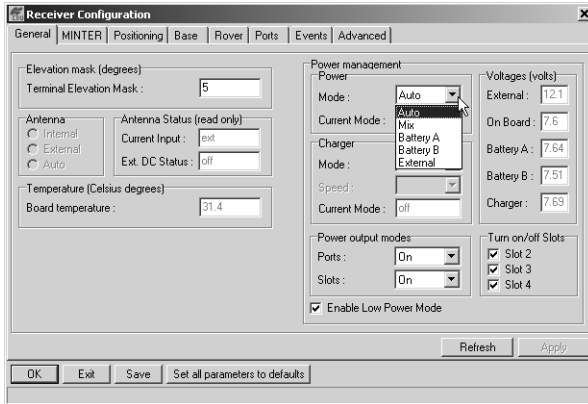

Figure 2-14. Select Power Mode
3. Select the Power Mode drop-down list to set the desired power source (Figure 2-14). Current Mode displays the current power source.